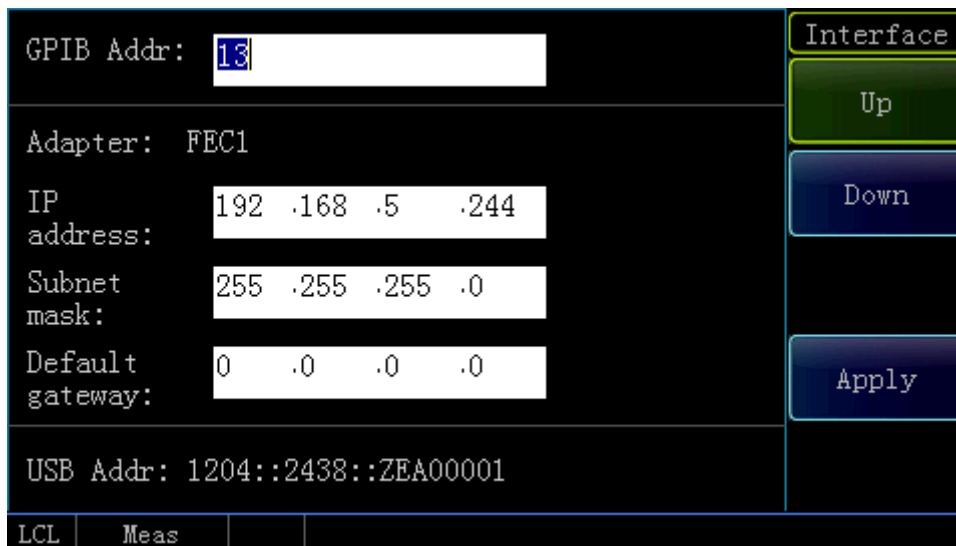

Fig. 3.8 Remote Control Interface Configuration Interface
Step 1. Press [Menu] >[Remote Control Interface] on the front panel to enter the interface configuration menu as shown in Fig. 3.8;